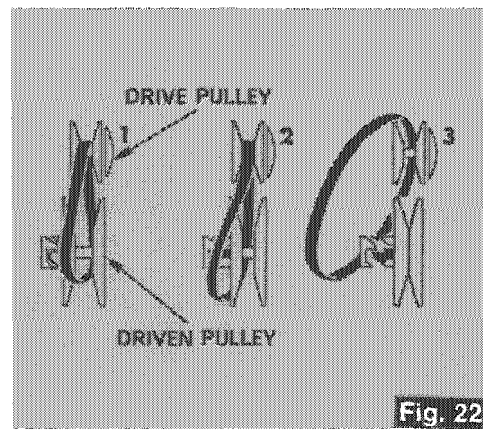

Fig. 22
To install new drive belt, follow REVERSE procedure. (See Fig. 22).
1. Remove the drive belt. (See Fig. 22).